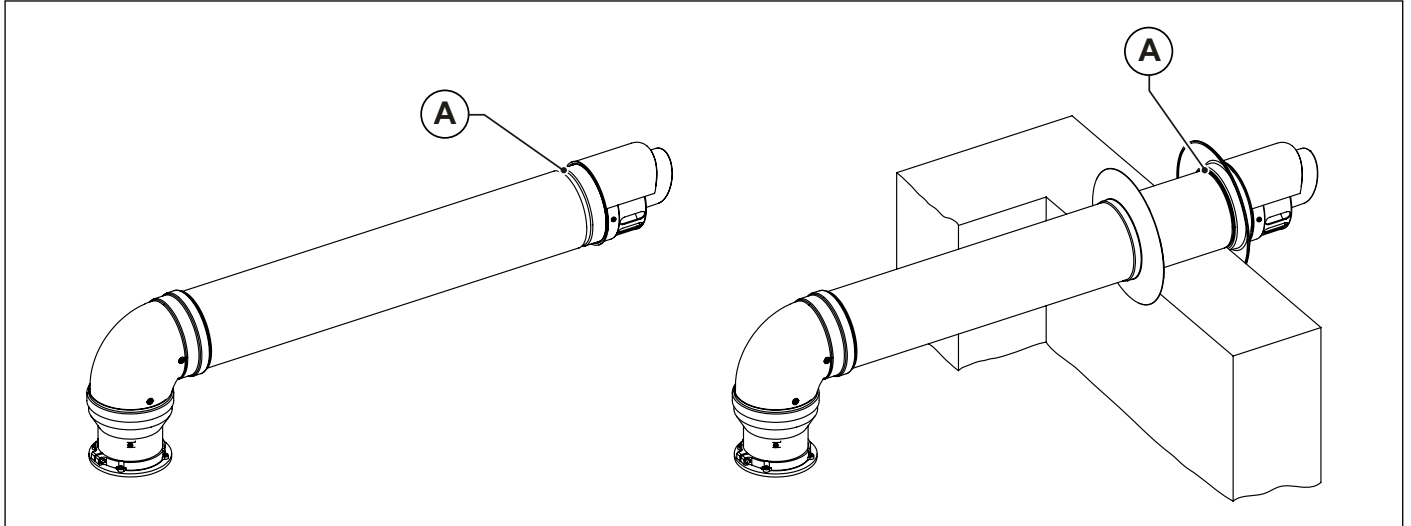

Fig. 10 Wall-mounted terminal installation
The final parts of air intake and flue gas venting terminals, both split and coaxial, feature a groove (A) to fix the external collar (see Fig. 10 Wall-mounted terminal installation).